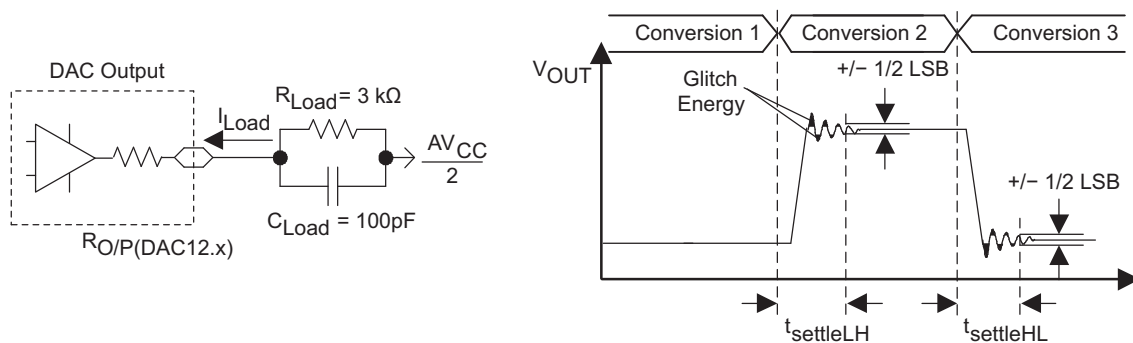
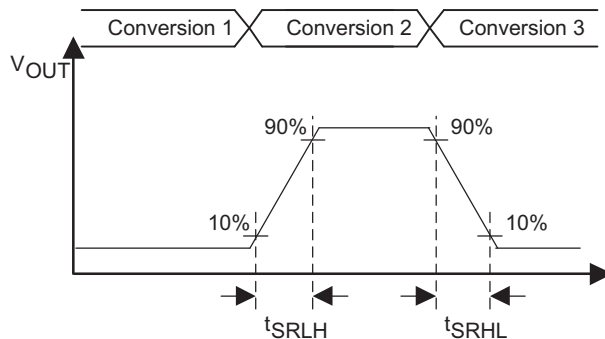

Figure 45. Settling Time and Glitch Energy Testing
Figure 46. Slew Rate Testing
$V_{REF} = V_{CC}$, DAC12IR = 1 (see Figure 45 and Figure 46), over recommended ranges of supply voltage and operating free-air temperature (unless otherwise noted)
(1) R_{Load} and C_{Load} are connected to AV_{SS} (not $AV_{CC}/2$) in Figure 45.
(2) Slew rate applies to output voltage steps $\geq 200 \text{ mV}$.